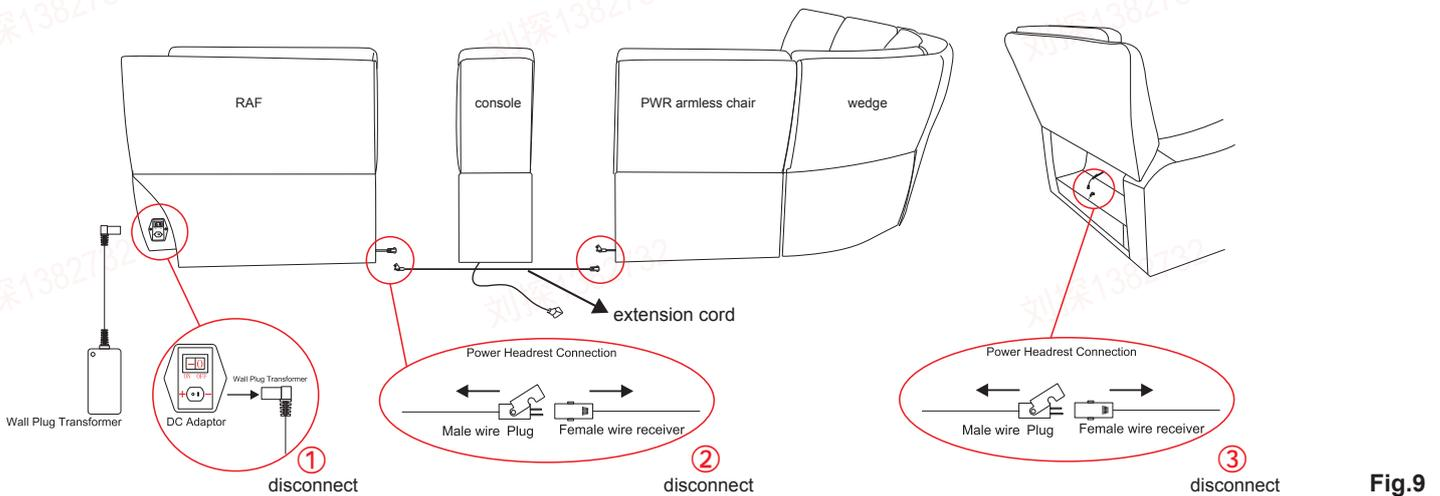

Fig.9
1. **Disconnect wires before moving the furniture.** Disconnect all wires that were connected in illustration STEPS 3 and 7 before moving and or disconnecting the sectional. see Fig. 9